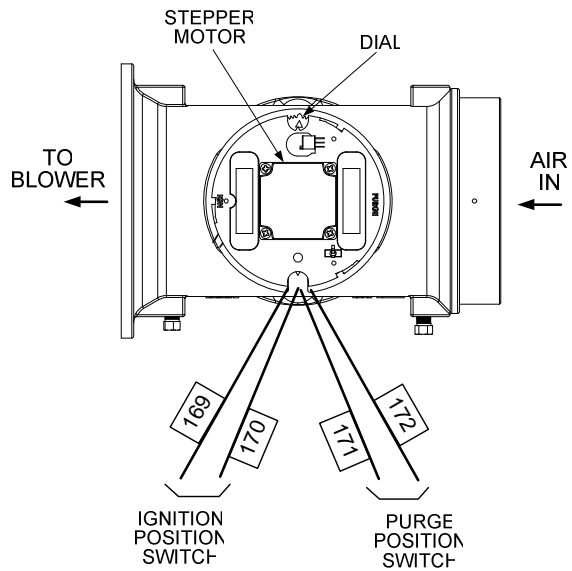

Figure 6-6
3. Remove one of the two wires (#171 or #172) from the Purge Switch (Figure 6-6).
4. Remove one of the two wires (#169 or #170) from the Ignition Switch (Figure 6-6).